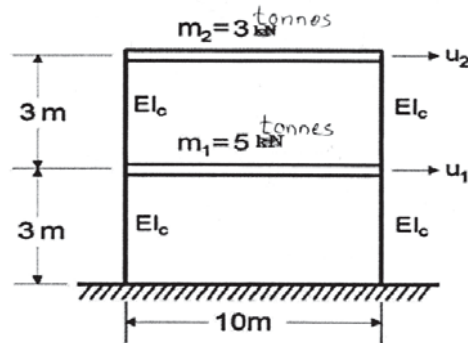

Figure 2
- b)** The two-storey building shown figure 2 has very stiff floor slabs relative to the supporting columns. Calculate the natural frequencies and mode shapes. Take $EI_c = 4.5 \times 10^3 \text{kNm}^2$. [7]